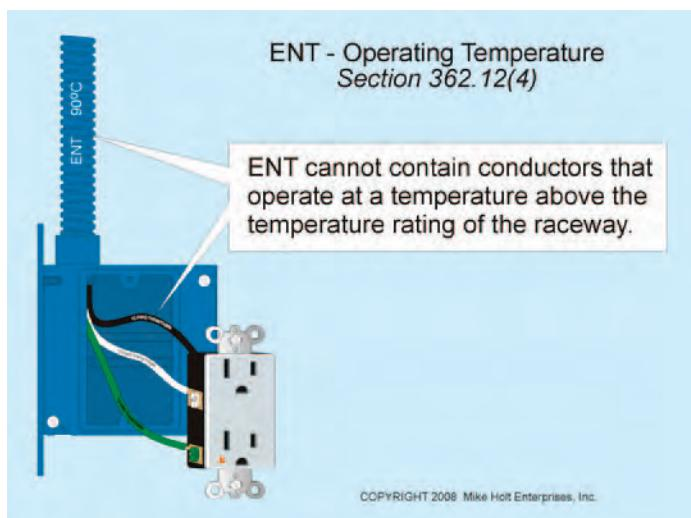

Figure 362–1
- (1) In any hazardous (classified) location, except as permitted by 504.20 and 505.15(A)(1).
- (2) For the support of luminaires or equipment. See 314.2.
- (3) Where the ambient temperature exceeds 50°C (122°F).
- (4) Where conductors operate at a temperature above the temperature rating of the raceway. **Figure 362–1**
- (5) For direct earth burial.
- (6) As a wiring method for systems over 600V.
- (7) Exposed in buildings over three floors, except as permitted by 362.10(2) and (5) Ex.
- (8) In assembly occupancies or theaters, except as permitted by 518.4 and 520.5.
- (9) Exposed to the direct rays of the sun for an extended period, unless listed as sunlight resistant.
- (10) Where subject to physical damage.
- Author's Comment:** Electrical nonmetallic tubing exposed to the direct rays of the sun for an extended time may result in the product becoming brittle, unless it is listed to resist the effects of ultraviolet (UV) radiation. **Figure 362–2**